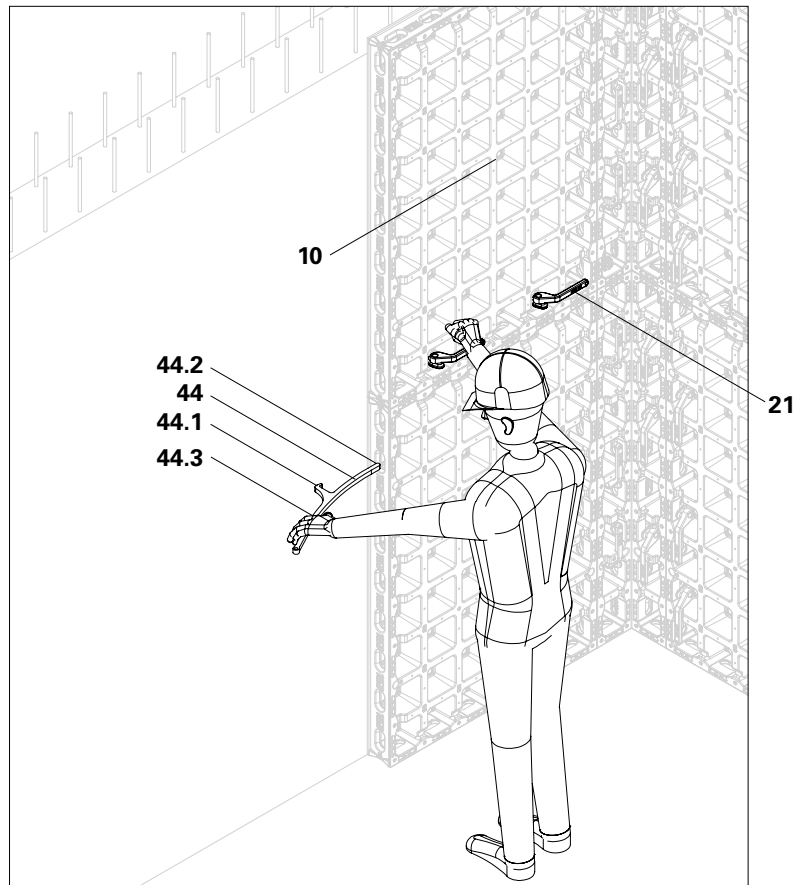

Fig. A4.09e
1. Prior to striking, remove the DUO coupling tie* and DUO coupler (21) from the vertical formwork joint in order to remove up to 2 DUO DP panels (10) at the same time.
2. Insert the end (44.2) of the DUO stripping lever (44) through the perforation on the edge of the panel so that the rear handle (44.1) is pointing towards the wall. Make sure that the rear handle makes contact with the concreted wall.
3. Push the hand grip (44.3) of the DUO stripping lever (44) towards the wall in order to release the DP panel (10) from the wall. (Fig. A4.09e + A4.09f)